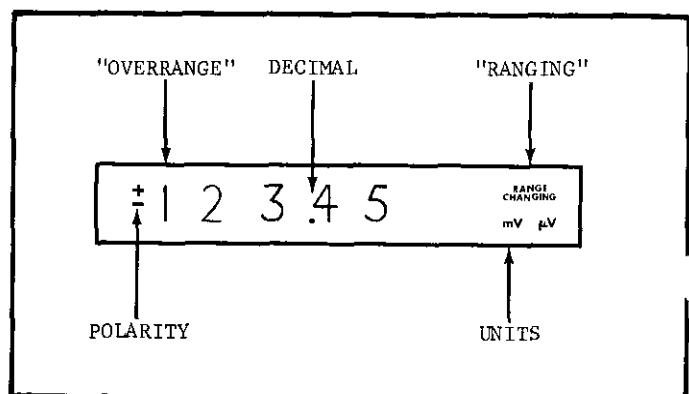

FIGURE 5. Digital Display.
a. Digital Display. The display is composed of four digits, an overrange "1", a floating decimal, and " μ V" or "mV" designations. A typical four digit display is shown in Figure 5.